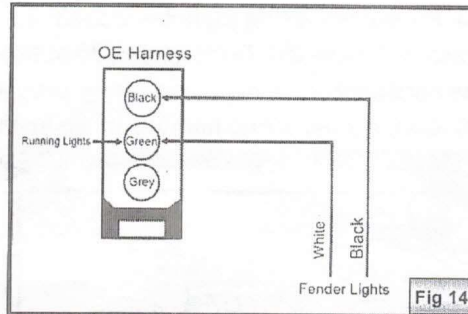

Fig 14
18. Connect the wiring harness to the installed lamp on the fender. Mosaic black and white OE turn signal harness, as shown in Figure 14